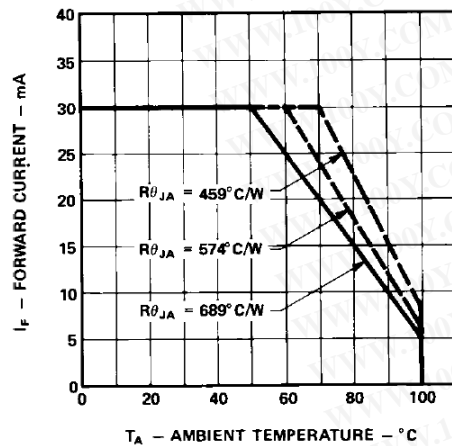

Figure 5. Maximum forward dc current vs. ambient temperature. Derating based on $T_{J \text{ MAX.}} = 110^\circ\text{C}$.
3. Derate linearly as shown in Figure 5.